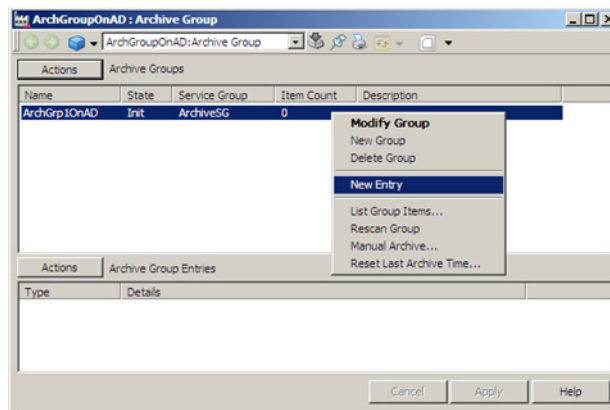

Figure 56. Adding a New Entry
1. Select the archive group from the list of archive groups, right click and choose **New Entry** from the context menu, Figure 56.